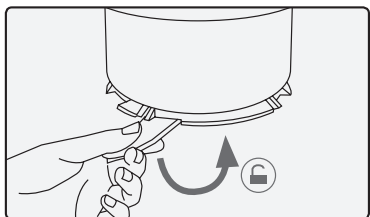

Figure 17
1. Turn the attachment clamp 180 ° into the open position and pull it from the jug stand, as indicated by the arrows. (Figures 17 and 18).